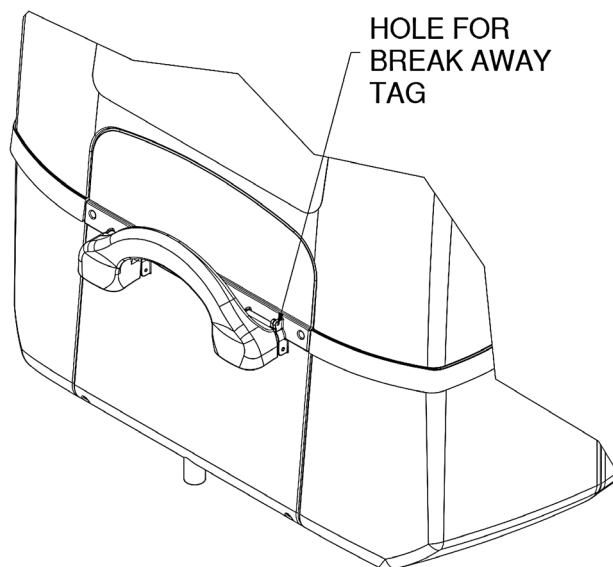

FIGURE 12
- A. With lid assembly installed and tray closed, place easy Break Away Tag through hole on right side of handle (**Ref Figure 12**)
- B. Visually inspect easy Break Security Tag is intact (Ref Figure 12).